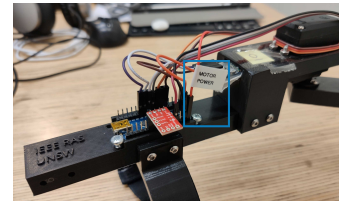

Fig. 5. WARNING: Unplug motor power when programming the microcontroller
**WARNING: EACH TIME BEFORE PROGRAMMING THE MICROCONTROLLER, PLEASE UNPLUG THE MOTOR POWER. IF THE MOTOR HAPPENS TO RUN (FROM SOME CODE DOWNLOADED PRIOR), IT MIGHT PULL A HIGH ENOUGH CURRENT TO DAMAGE YOUR LAPTOP. IF UNSURE, ASK THE DEMONSTRATOR BEFORE PLUGGING IN YOUR LAPTOP.** My personal computer shut down a number of times due to this mishap. See Fig. 5.